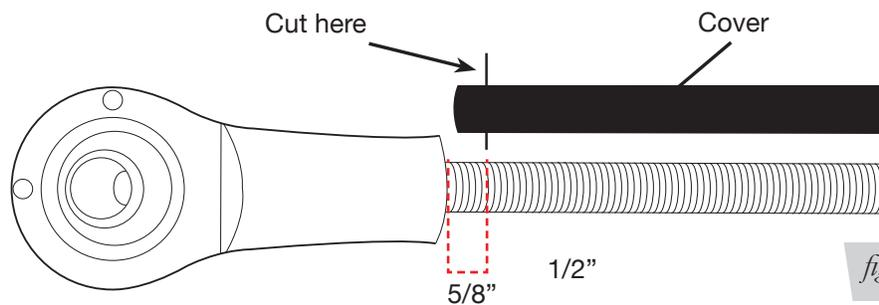

fig. 15
- Cut the rod cover 5/8" shorter than the rod length with the rod assembled on one end after cutting (fig. 15).